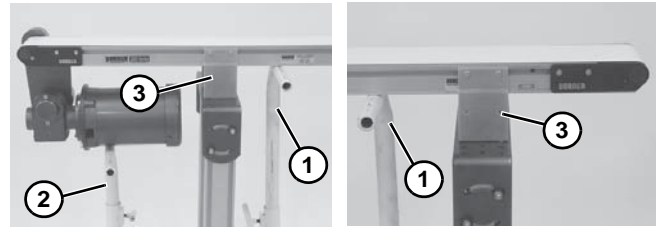

Figure 20
1. Place temporary support stands (**Figure 20, item 1**) at both ends of the conveyor. Place an additional support stand under the drive motor (**Figure 20, item 2**), if equipped. See WARNING.
2. Remove mounting brackets (**Figure 20, item 3**) from one side of conveyor. (Reverse steps 3 & 4 of “Mounting Brackets” section beginning on page 8.) If equipped with heavy load drive package, remove brackets from side opposite drive cover (**Figure 21, item 1**).
- Ensure temporary support stands (**Figure 20, item 1**) are placed at both ends of the conveyor. Place an additional support stand under the drive motor (**Figure 20, item 2**), if equipped. See WARNING.